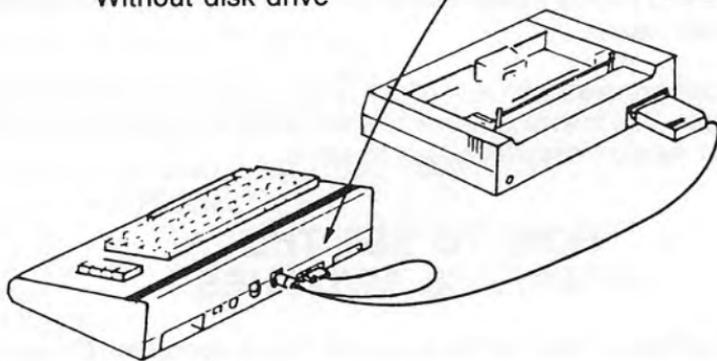

Fig. 1 Setting up the interface
Before you can try using any of your interface's special features you need to connect it properly to the rest of your system. Refer to figure 1 as you follow these steps:
- Refer to figure 1. Find the little board on the end of the single wire coming out of the interface cable. There should be a white connector attached to this board. Plug this white connector into the cassette port on your C-64, 128, or 128D computer. The cassette port is the smallest of the three rectangular slots.